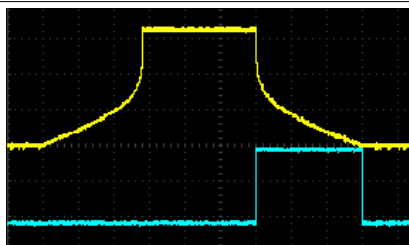

Figure 10a: End-of-Rise (EOR)
- End-of-Rise outputs a gate that goes high when the fall segment begins, and goes low when the envelope completes. It is low during a sustain segment. The jack will stay low when the envelope is not running. Another name for this jack might be "Envelope is Falling". See figure 10a.